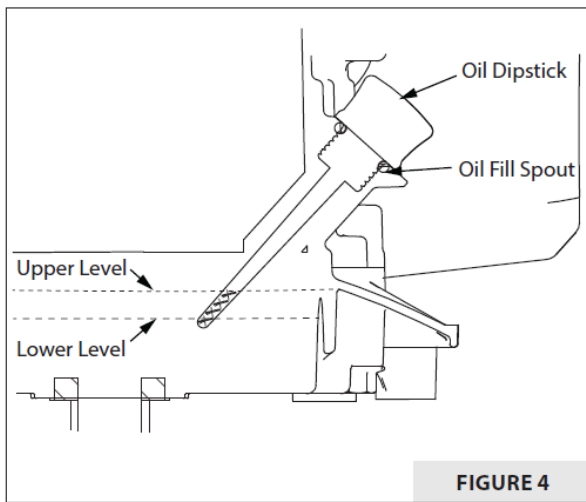

FIGURE 4
1. Remove the oil dipstick. Fill the crankcase to the FULL line on dipstick. DO NOT OVERFILL. **SEE FIGURE 4.**